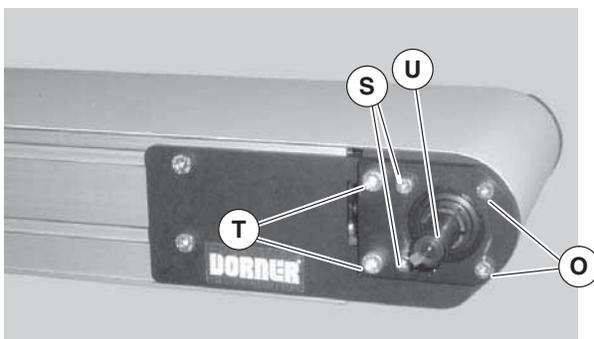

Figure 6
3. Locate drive output shaft (Figure 6, item U). Remove two (2) M8 screws (T) and four (4) M6 screws (S) and discard.